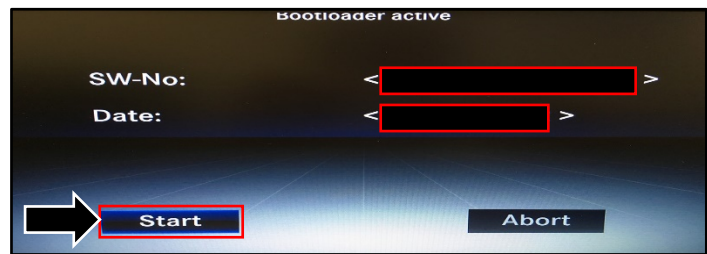

Figure 12
21. Select 'Start' to begin the update. (refer to Figure 12).